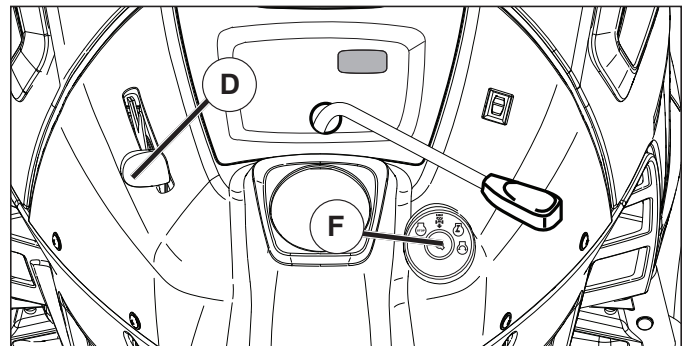

Fig. 17
- Move throttle control (D) to slow position.
- Turn ignition key (F) to "STOP" position and remove key. Always remove key when leaving tractor to prevent unauthorized use.
### TO USE THROTTLE CONTROL (D) (See Fig. 17)